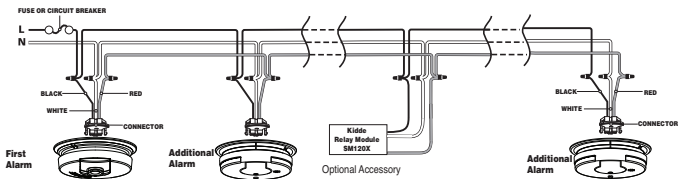

FIGURE 5 INTERCONNECT WIRING DIAGRAM
- Figure 5 illustrates interconnection wiring. Improper connection will result in damage to the alarm, failure to operate, or a shock hazard.
NOTE: The alarm will mount to the bracket in 4 positions (every 90 degrees). When wall mounting, make sure the battery box is at the bottom of the unit. (see Figure 5).